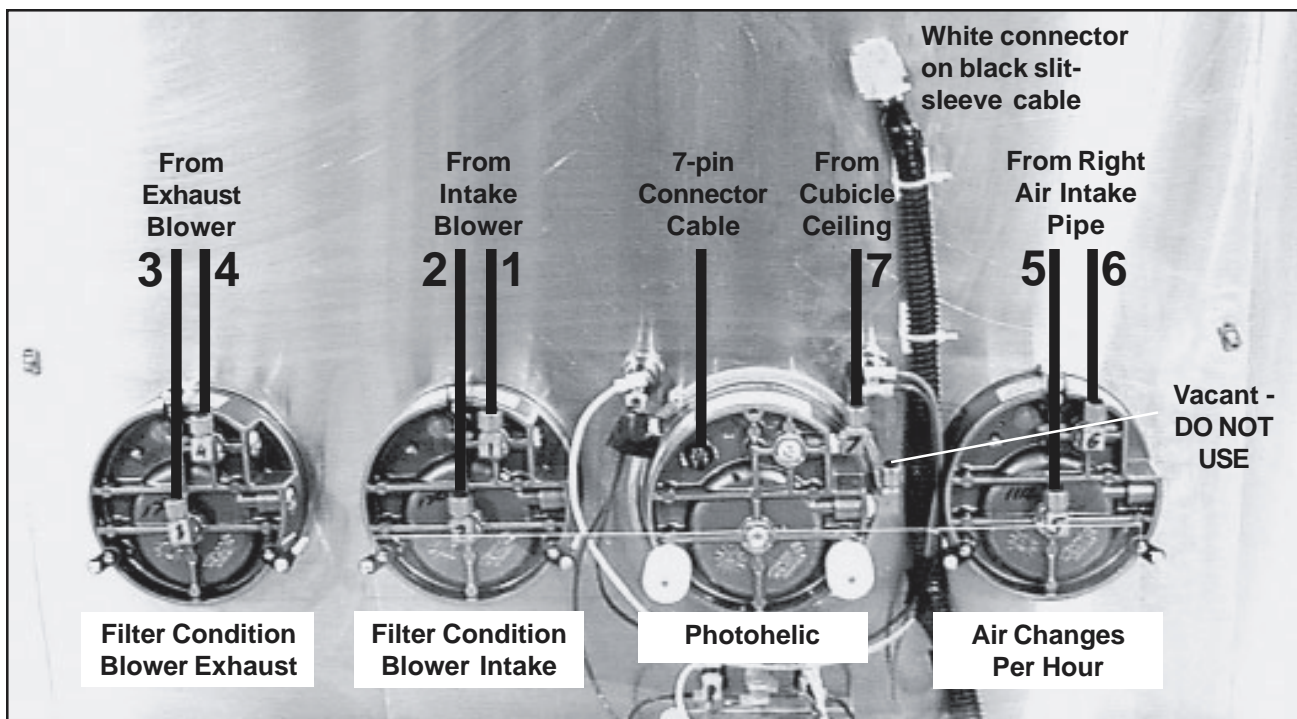

Figure 60. Piping & Wiring Connections on Rear of Front Panel
4. Disconnect the white plastic connector on the black slit-sleeve cable (Figure 60).